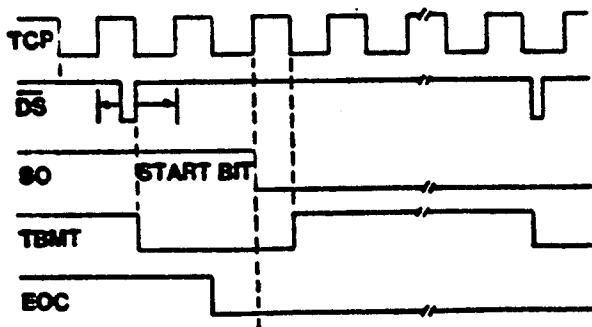

Fig. 2 TRANSMITTER AT START BIT
- NOTE: SEE FIGURES 2, 3, 4 FOR DETAILS